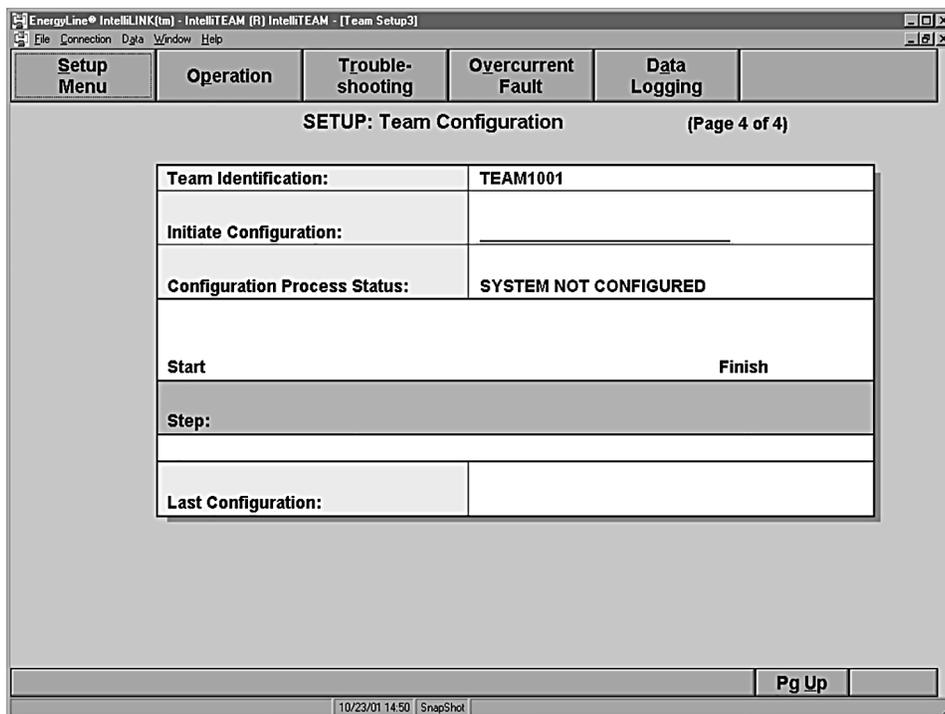

Figure 19. Page 4 of the *Setup>Team Configuration* screen.
**STEP 1.** At Page 3 of the *Setup>Team Configuration* screen, click on the **PgDn** button to display Page 4. See Figure 19.